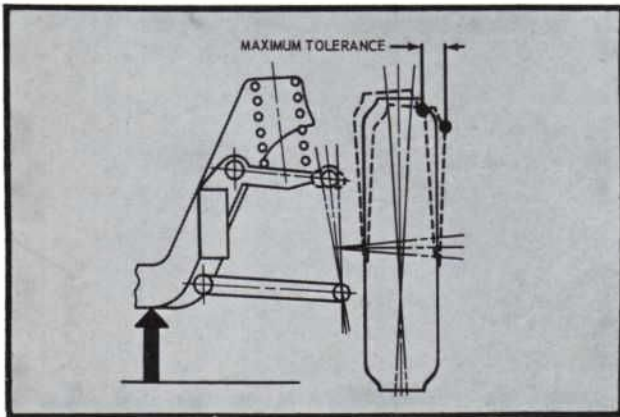

Figure 1—Measuring Upper Ball Joint Radial Play
1. Raise the car on a frame contact hoist or by floor jacks placed beneath the underbody until the wheel falls to the full down position as shown in Figure 1. This unloads the upper ball joint.
4. Grasp the tire at the top and bottom, and slowly move it in and out, (Figure 1). Note the reading (radial play) on the dial indicator. If the reading exceeds 0.250", the upper ball joint should be replaced.